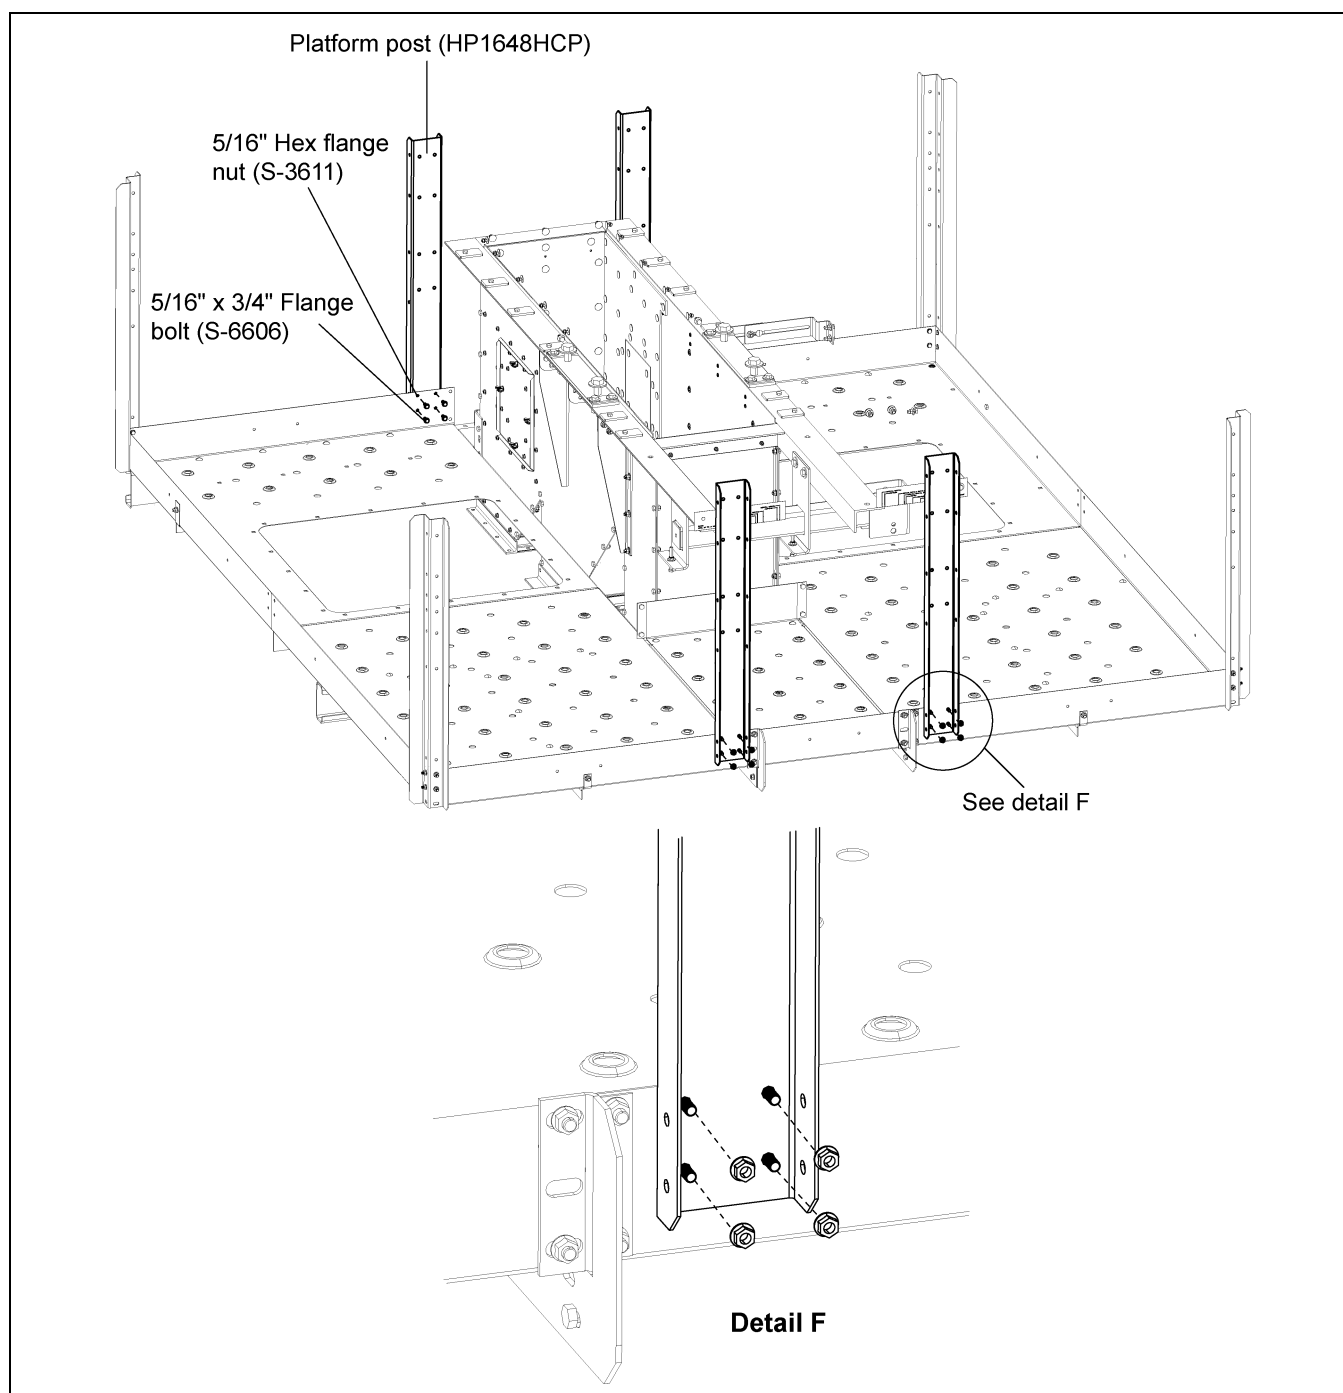

Figure 7P Middle End Posts
2. At the discharge end, align platform posts as described and attach one platform posts (HP1648HCP) to the edge of Deck C and Deck A nearest the lower head. (See Figure 7P.)